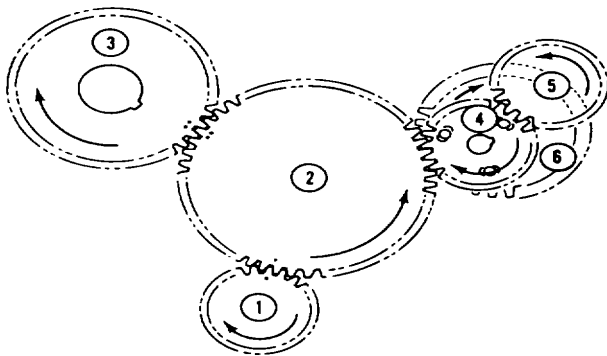
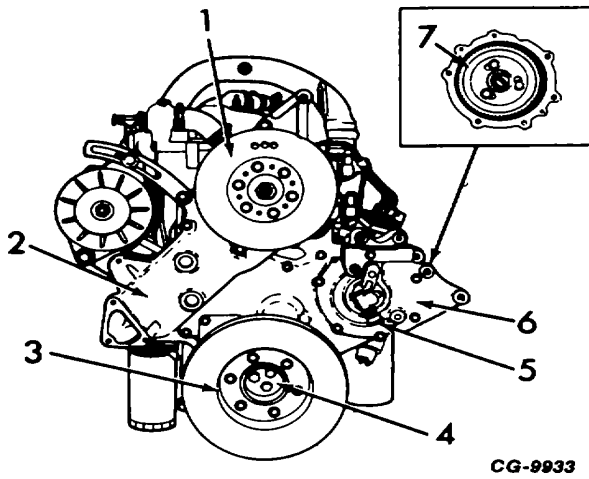

Figure 3. - Timing Gear Rotation
Figure 4A. - Crankcase Front Cover - Engines Equipped with Robert Bosch Model MW Fuel Injection Pump
The gear train lies under the crankcase front cover. The gear train is simple in design. The idler gear (2, Fig. 3), driven by the crankshaft gear (1), drives the engine camshaft gear (3) and the injection pump gear (4 or 6, depending on pump). If equipped, a tachometer adapter (5, Fig. 4a) mounts to the injection pump drive gear access cover (6, Fig. 4a). The tachometer driven by a slot in the end of the injection pump camshaft for engines equipped with Robert Bosch Model MW Fuel Injection Pump. For engines equipped with UTDS* Model 100 Fuel Injection Pump a plastic tachometer gear (5, Fig. 3) meshes with the injection pump gear (4, Fig. 3) to drive the tachometer.